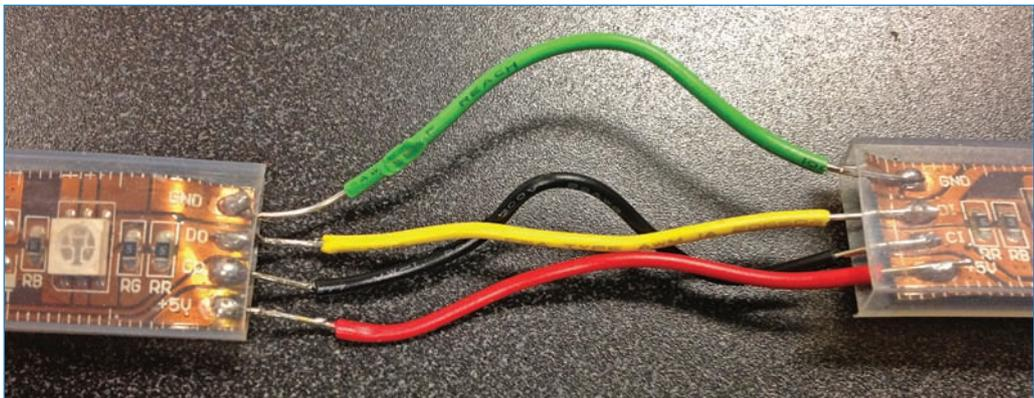

FIGURE 3.25 Connect each solder pad to its mate on the other strip.
3. Add a dab of solder to each pad, and then tin the end of your jumper—you probably need less than a quarter-inch of exposed wire—and solder it to the pad, as shown in Figure 3.25. Some people also use hot glue on the exposed contacts to ensure the connection remains solid.